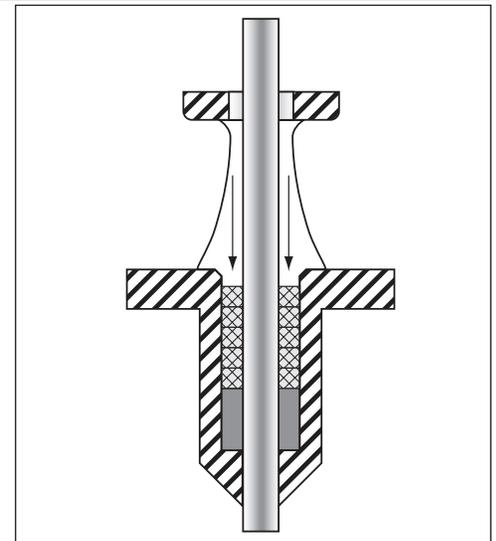

Figure 3: Install Bushing and Packing Rings
21. Insert the next ring of packing into the stuffing box and use a tamping tool to firmly seat this ring of packing against the previously inserted ring, staggering ring joints 90°. Repeat this procedure for all the packing rings that are to be installed (Figure 3). **NOTE: The packing set may need to be pre-compressed in order for the final packing ring to be installed. Be sure the top packing ring sits below the stuffing box chamfer prior to applying load.**